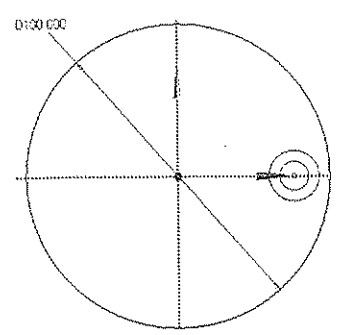

Figure 4-45 Two concentric circles with their center coincident with the X-axis
8. Invoke the **Circle** tool and draw two concentric circles such that their centers are coincident with the X-axis, refer to Figure 4-45.